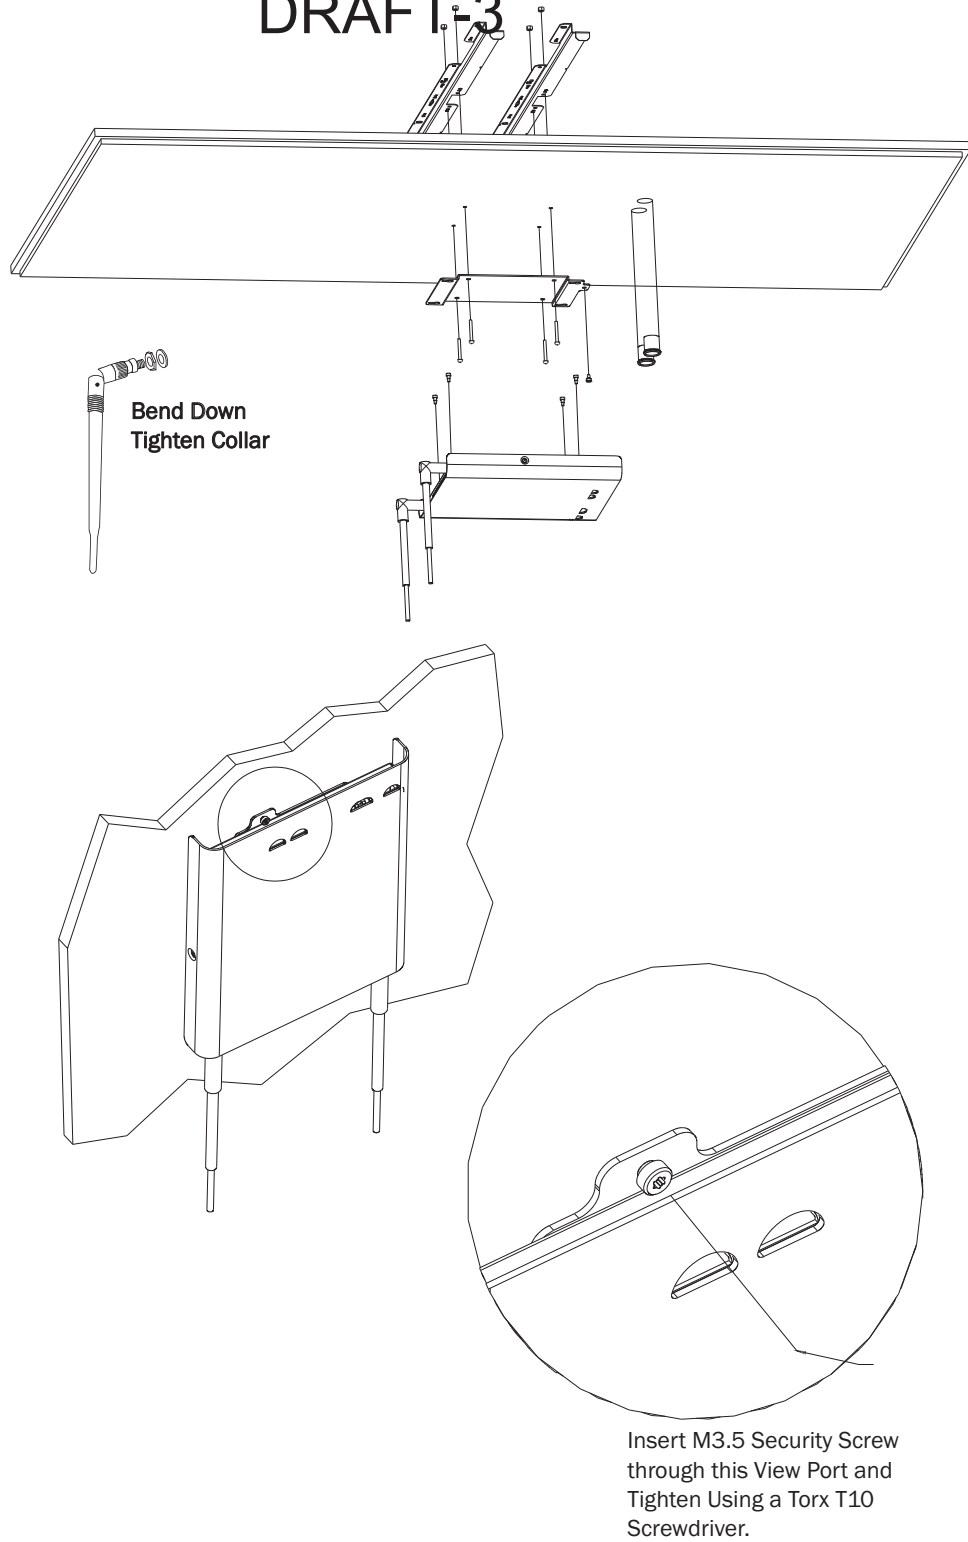

Figure 2-13: Mounting the Core AP Below a Ceiling Tile (Quick Release)
8. Insert the four (4) M3 .5 x 0.6 x 30mm screws into the AP wall plate, through the tile, and into the mating holes in the mounting rails on top of the tile. Hand tighten the four locking hex nuts onto the screws, and then torque-tighten each nut to 10-inch lbs (#1 Pozidrive).
9. Using a 5/64-inch (2 mm) Allen (i.e., hexagonal) wrench, secure the four supplied M3 X 0.5 hex-head shoulder screws to the back of the Core AP as shown in Figure 2-13. Torque-tighten each shoulder screw to 8-inch lbs.
11. Using a Torx T10 screw driver, secure the Core AP to the wall plate by screwing the supplied M3 .5 X 0.6 T-10 Torx Head security screw into the PEM nut in the wall plate as shown in Figure 2-13. Torque-tighten the screw to 10-inch lbs. Note that this safety screw is used to prevent the Core AP from sliding out of the wall plate.